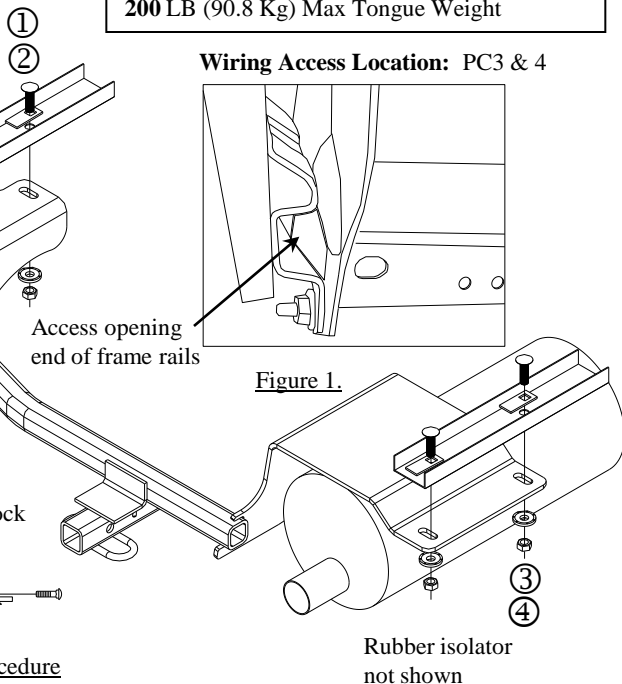

Figure 1.
①	Qty. (4)	Carriage bolt 7/16-14 X 1.50 GR5	⑤	Qty. (1)	Hex bolt ¼-20 X 1.25
②	Qty. (4)	Spacer	⑥	Qty. (1)	Lock washer 1/4"
③	Qty. (4)	Conical washer 7/16"	⑦	Qty. (1)	Flat washer 1/4"
④	Qty. (4)	Hex nut 7/16-14	⑧	Qty. (1)	Hex nut ¼-20
- Lower exhaust system at the rubber isolators (2). Note: Spraying a lubricant or soapy water on the metal hanger rod and the rubber isolator helps removal.
- Using a bolt leader insert carriage bolts and spacers into the access opening of the vehicle's frame rail both sides as shown in Figure 1. Leave the bolt leaders attached to bolts until the hitch is in place. On the passenger side with the bolt leaders attached leave the carriage bolt in side the frame for extra clearance for the hitch bracket.